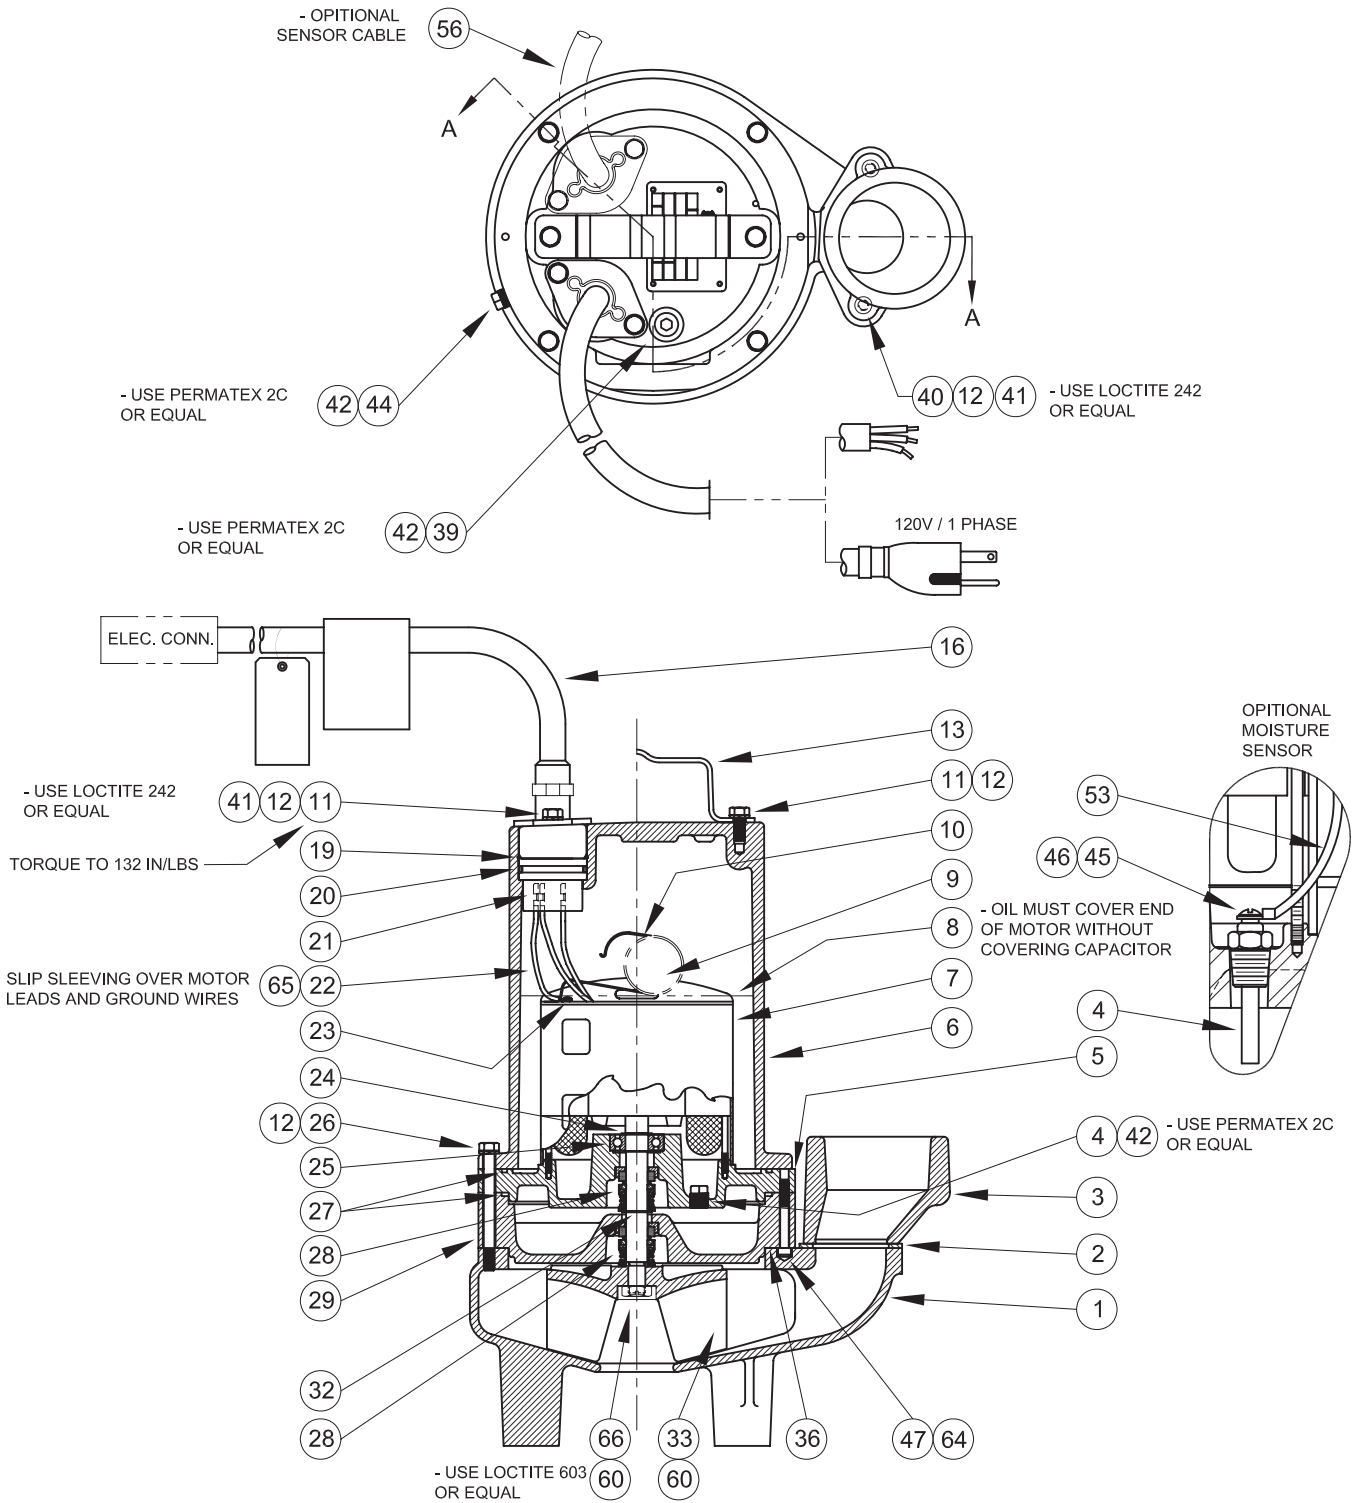

FIGURE 20
Moisture Sensors, DS Models - If pump is equipped with optional moisture sensors, reassemble by applying thread compound to threads on probes (4) and install in upper seal plate (5), see Figure 20 & 21. Connect wire assemblies (53) to probes (4) with washers (46) and machine screws (45).